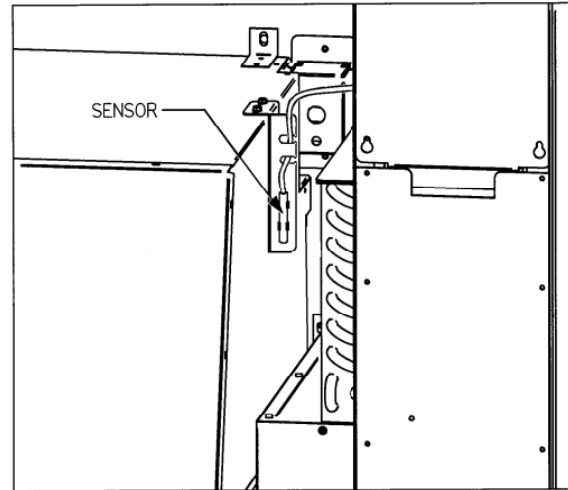

Figure 8.3 Temperature Sensor
4. The sensor is mounted to its bracket using two spring clamps (Refer to Figure 8.3). To remove it, first unwrap the sensor wire from the two slots in the bracket, and then slide the sensor out of the two spring clamps.